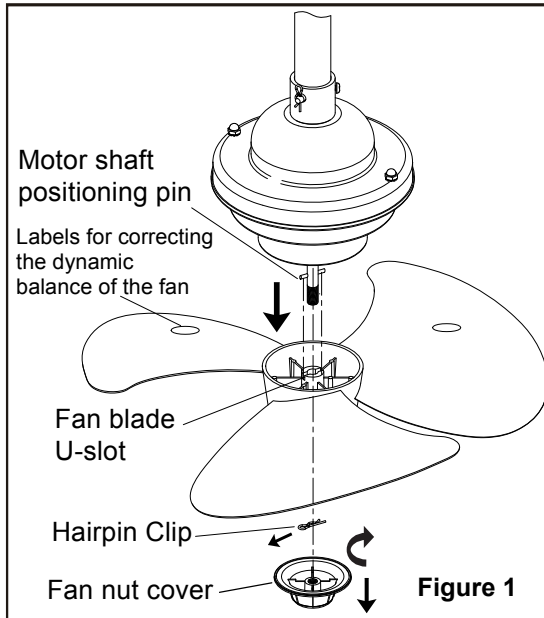

Figure 1
- ☐ **1. Installing Remote control Holder:** (Figure 1)
Take out the fan nut cover clockwise, insert the screwdriver into the empty position of the hairpin, pull out the hairpin, and then take out the fan blade. (Figure 1)
Be careful not to tear off the balance stickers on the fan blades. The fan blades have been calibrated for dynamic balance, so as not to cause the lamp body to shake when the fan is running.(Figure 1)